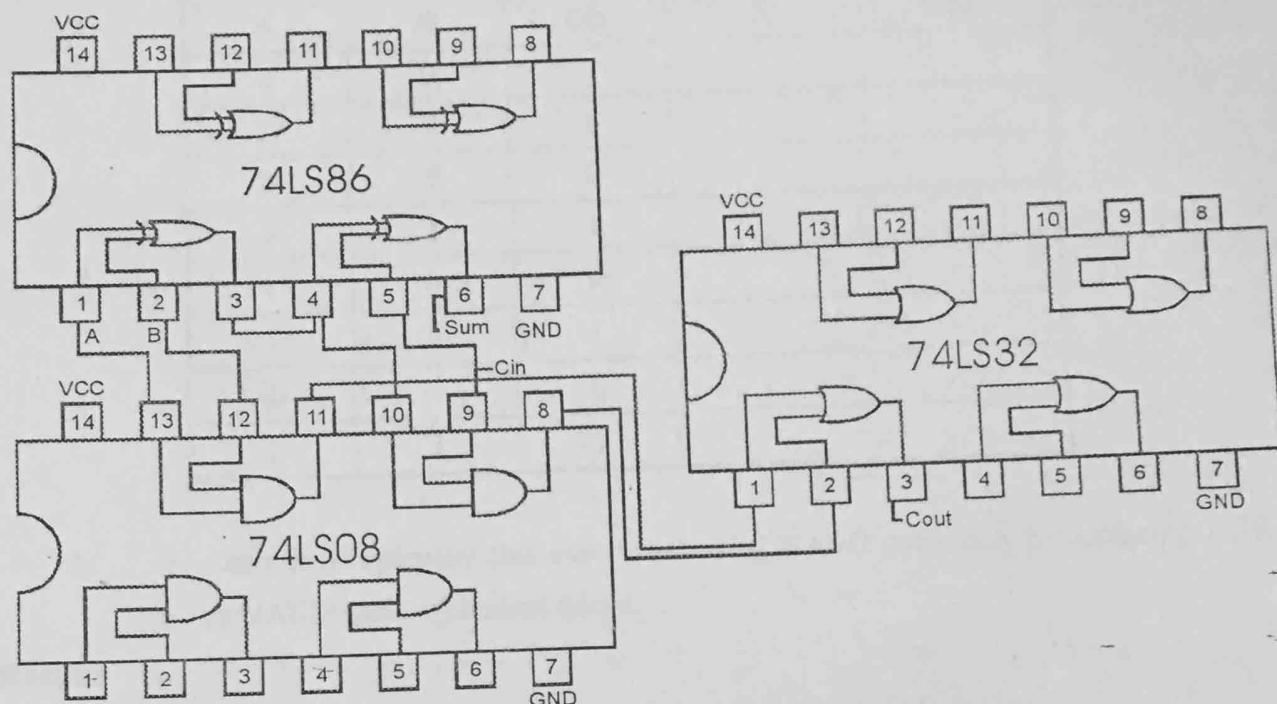

Figure 10.2
4. Wire the circuit according to the diagram shown in figure 10.2.